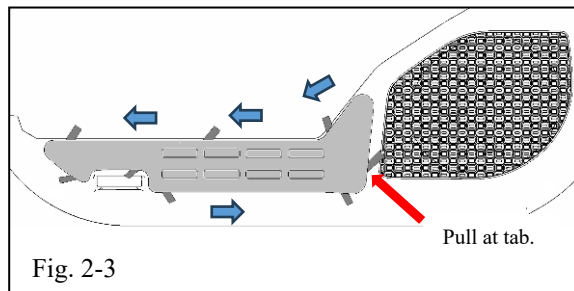

Fig. 2-3
- (d) Verify the protector is aligned correctly. Pull all liners away from the Protector exposing the tapes. (Fig 2-3).